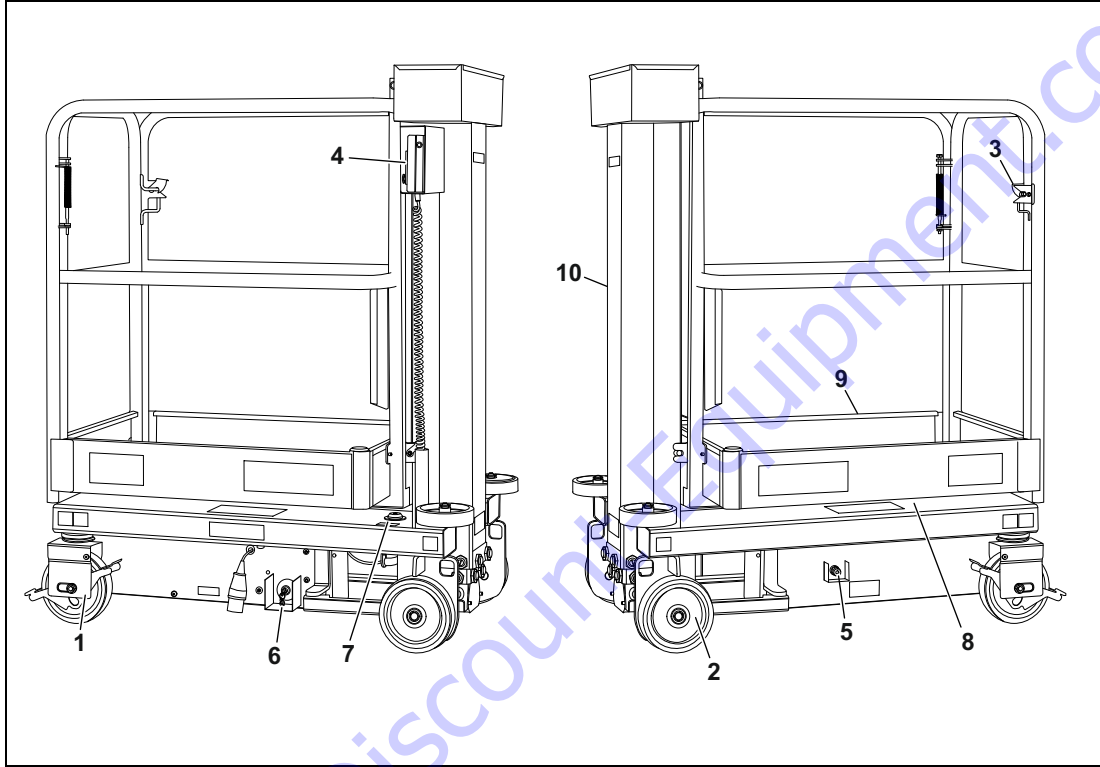

Figure 2-1. Daily Walk-Around Inspection
Begin Walk-Around Inspection at item 1 (See Figure 2-1. on page 2-6). Continue around machine checking each item in this check list.